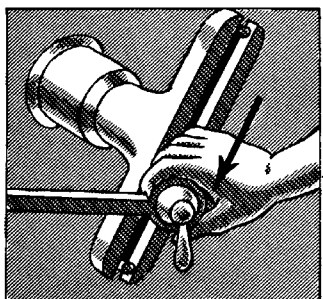

FIG. 80
**NOTE:** The farther from center the block is moved, the greater becomes the amount of feed. If the slide block is moved out from the center of one side of the feed disc or feed rocker arm, the feed will operate during the cutting stroke. If the block is moved out from the center of the feed-regulating device on the opposite side, the feed will operate on the return stroke of the ram. This latter adjustment is preferable for most work. Refer to Fig. 80.